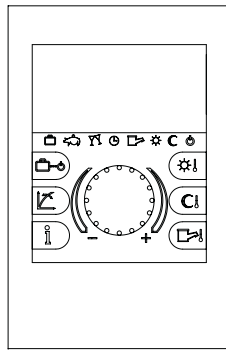

Fig. 1-7
- Zone manager (Fig. 1-7). In addition to the functions described in the previous point, the zone manager allows to control all the important information regarding operation of the appliance and the heating system with the opportunity of easily intervening on the previously set parameters without having to go to the place where the appliance is installed. The climate chromothermostat incorporated into the remote panel enables the system flow temperature to be adjusted to the actual needs of the room being heated, in order to obtain the desired room temperature with extreme precision and therefore with evident saving in running costs. It also allows to display the effective room temperature and the external temperature (if external probe is present). The zone manager is powered directly by the cascade heat adjuster via 2 wires.